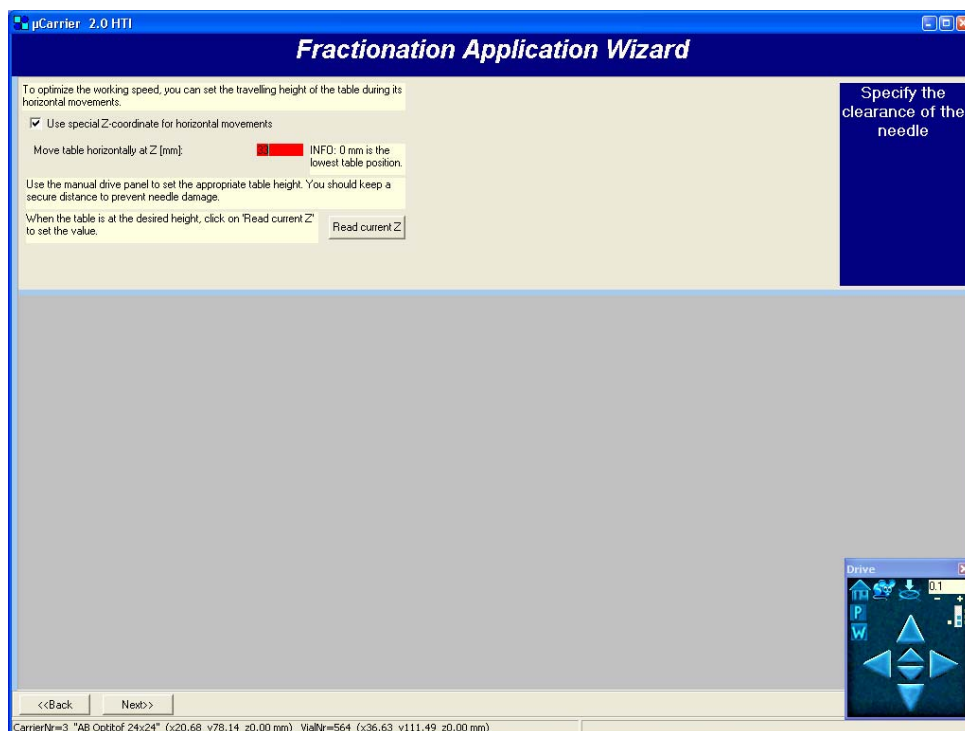

FIGURE 2-43 The Fractionation Application Wizard – Z-Coordinate for Horizontal Movements
- l) As the last step of the group definitions, the 'Standby position', where the needle stays before and after each collection, needs to be defined. Frame this position in the same way as described in the step above. Choose **Next** to define a 'special Z coordinate for horizontal movements' (FIGURE 2-43).
- m) Carefully adjust the Probot table height with the panel (FIGURE 2-43, and then choose the **Read current Z** button. The current table height will now be stored in the application.